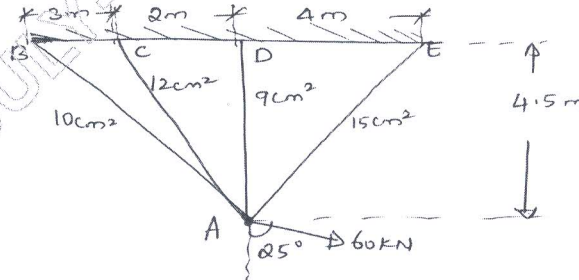

Fig.Q.6
- 6 Find forces in all members for the given pin jointed frame shown in Fig.Q.6 and also displacement of joint A. Take  $E = 200 \text{ GPa}$ . (16 Marks)